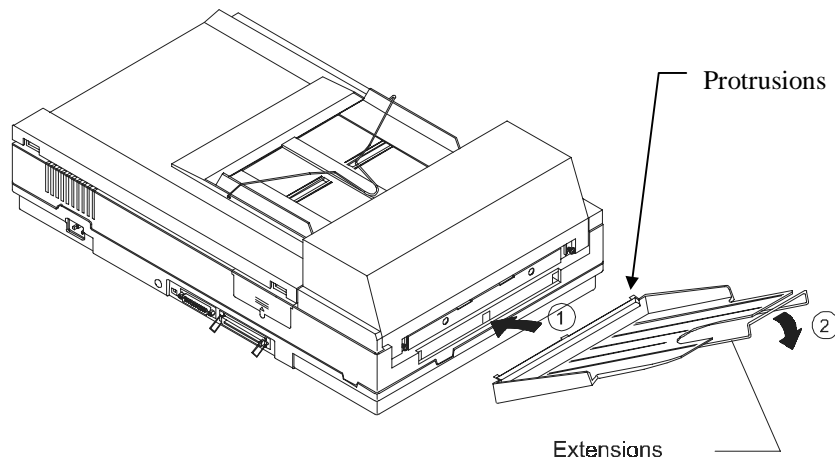

Figure 2-5 Install the ADF Output Paper Tray
| 2.4 ADF OUTPUT TRAY (FIGURE 2-5) | 2-6 |
2.4 ADF Output Tray (Figure 2-5)
- i). Hold the output paper rack some 30 degrees aslant as shown in Figure 2-5.